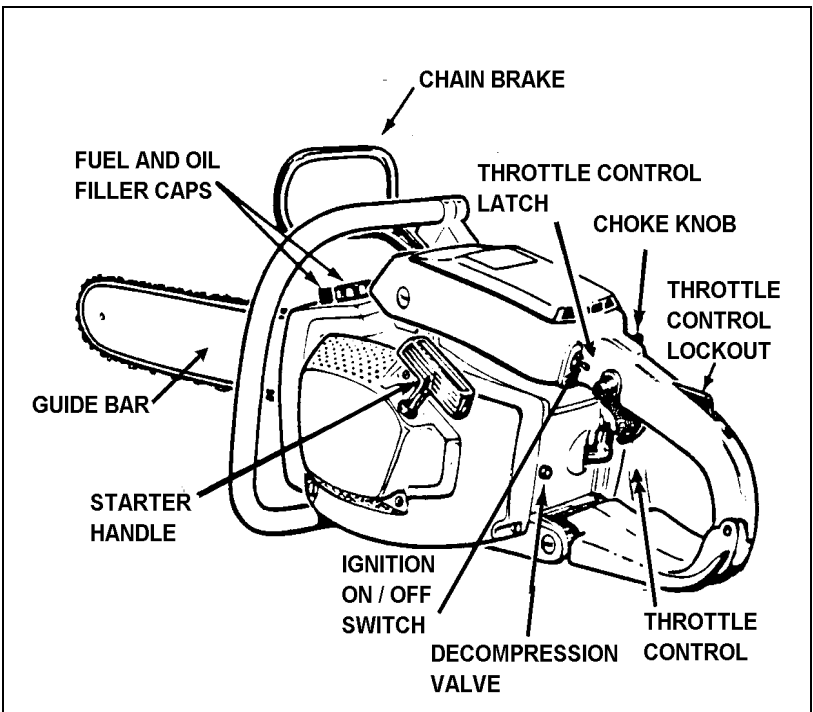

Fig 4-2-1 Typical Chainsaw
1. The major components common to all chainsaws in current service use are shown in Fig 4-2-1. These are: